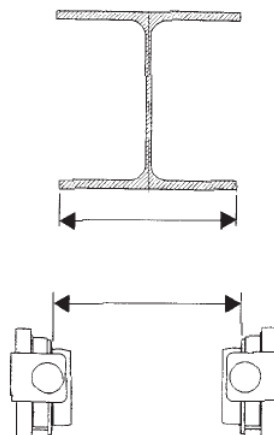

fig.14
- Check the width of the flange of the girder which must correspond to that intended for the trolley wheels (fig.14).